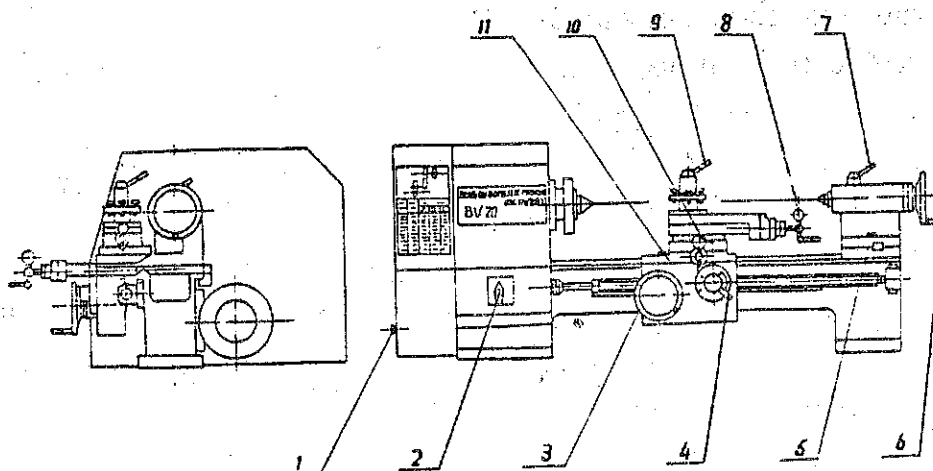

Fig. 3 Operation system
2. The machine tool must be installed on a rigid bed plate made of wood or iron, and fixed with screw and nut. The dimension of the bed plate can be selected according to that of the machine (See Fig. 3). It is never allowed to install the machine on the wood bed plate which is not so rigid and solid so as to prevent the machine from vibrating when it starts running, and this will have an effect on the accuracy of its operation. During the transportation, the saddle must be close to the tailstock and clamped.